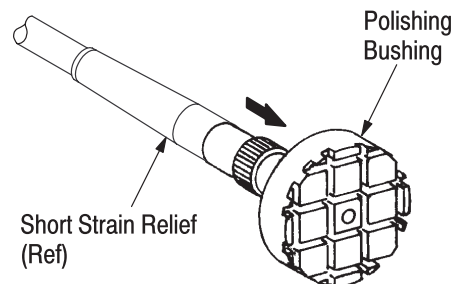

Figure 8
4. Insert the connector into the polishing bushing. See Figure 8.